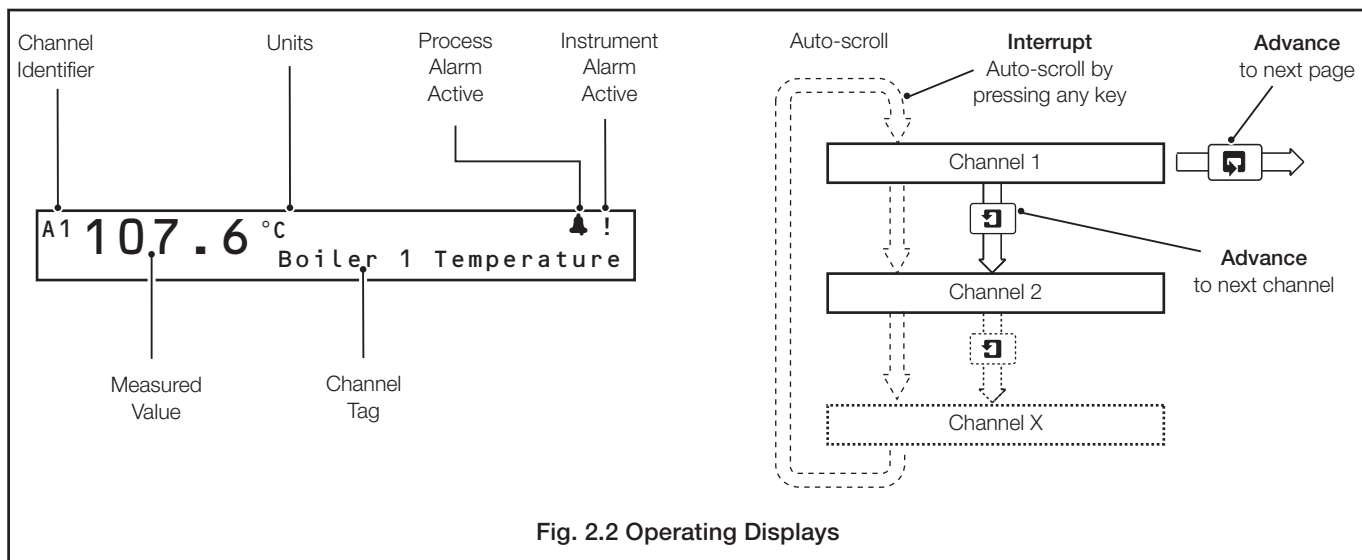

Fig. 2.2 Operating Displays
2.1.2 Operating Displays – Fig. 2.2